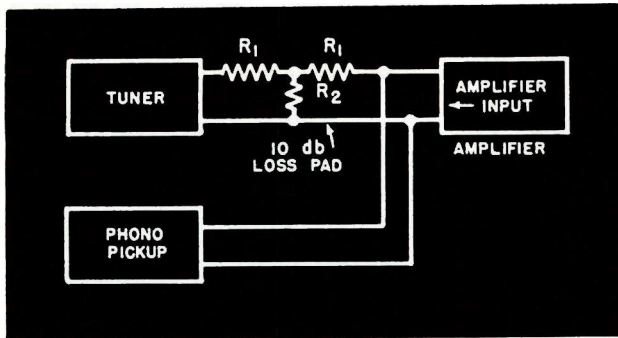

Fig. 1. Attenuation system used to bring level of tuner down to level of another tuner or phono pickup.
**O**FTEN it is necessary to design an attenuating network to work between equal impedances. For instance, it may be necessary to provide a 10-db loss in a radio tuner circuit, to bring the level of the tuner down to the level of another tuner or a phonograph pickup; Fig. 1. In this case, the output impedance of both sources is 500 ohms and, therefore, the net  $Z$  value is 250 ohms. To get a match the amplifier input,  $Z$ , must be 250 ohms. A  $T$  pad, which gets its name from the fact that the arrangement of resistors looks like a  $T$ , is used to cut down the tuner output level. The value of  $R_1$ , for the pad, can be obtained by using a simple formula, and similarly the value of  $R_2$  can be calculated.